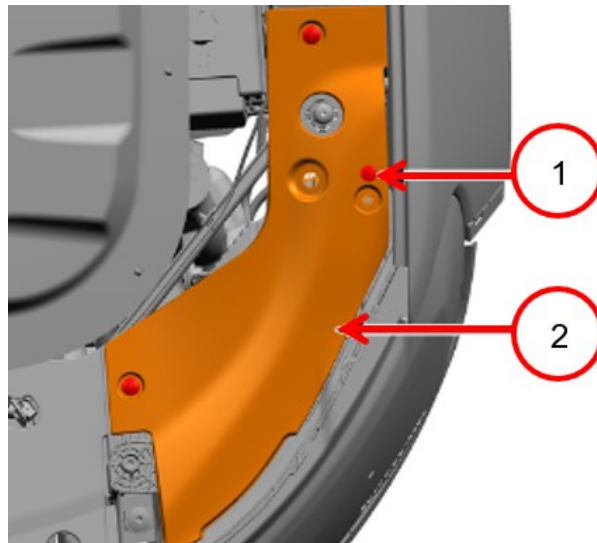

Fig. 3
6. Remove the headlamp close out panel Fig. 3.